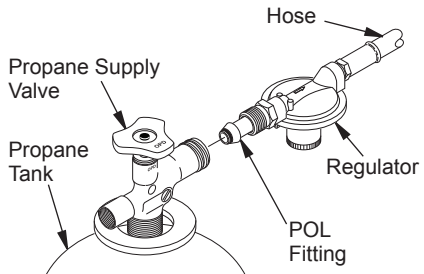

Figure 4 - Regulator Position
IMPORTANT: Position regulator so that hose leaving the regulator is in a horizontal position (see Figure 4). This places the regulator vent in the proper position to protect it from the weather.
- Connect hose to valve inlet (see Figure 4, page 6). Tighten firmly using a wrench.